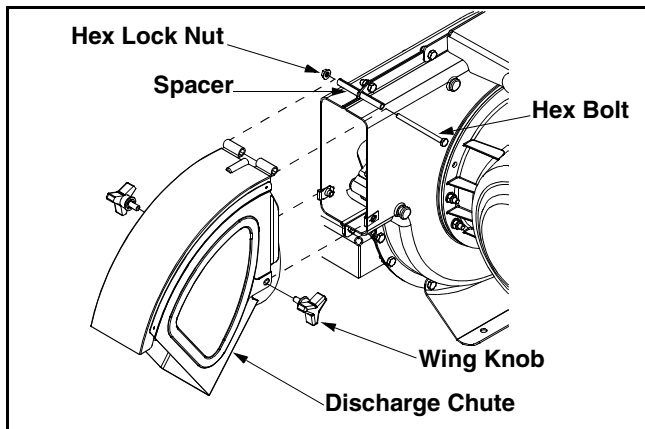

Figure 4
- Remove the wing knobs from each side of the discharge opening on the chipper shredder. See Figure 4.
- Place second spacer over hex bolt inside the other part of the hinge. Secure with hex lock nut and tighten securely. See Figure 4.